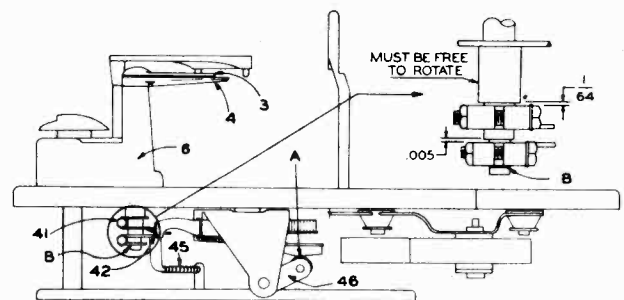
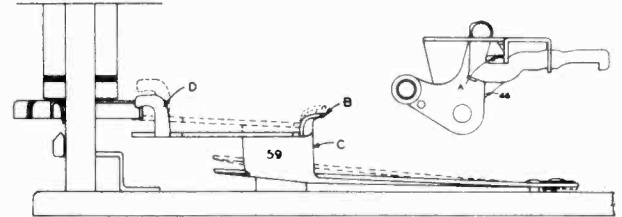

Fig. 5
Fig. 7
As explained above, the weight of records on the spindle prevents the Automatic Lock Lever (59) from dropping. As the Cam Lever and Bracket assembly (46) moves forward to engage the Push-off Blade Actuating Lever (42), Fig. 5, point A of the Cam Lever (46), Fig. 7 should also move forward under point B of the Automatic Shut Off Lock Lever (59) to make certain it does not drop until the last record has dropped to the turntable and the Pickup Arm is in position to play. If point A does not engage point B, the Lock Lever (59) will drop to engage the Pickup Arm Raising Disc (36) and the Pickup Arm will return to the rest position without playing the last record.